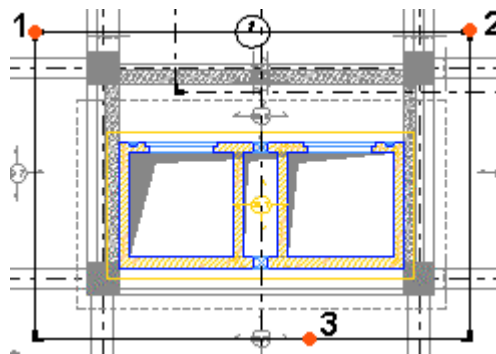

Figure 238: Local view definition
4. Draw the local view definition polyline by three points and include the elevator walls as in Figure 238.